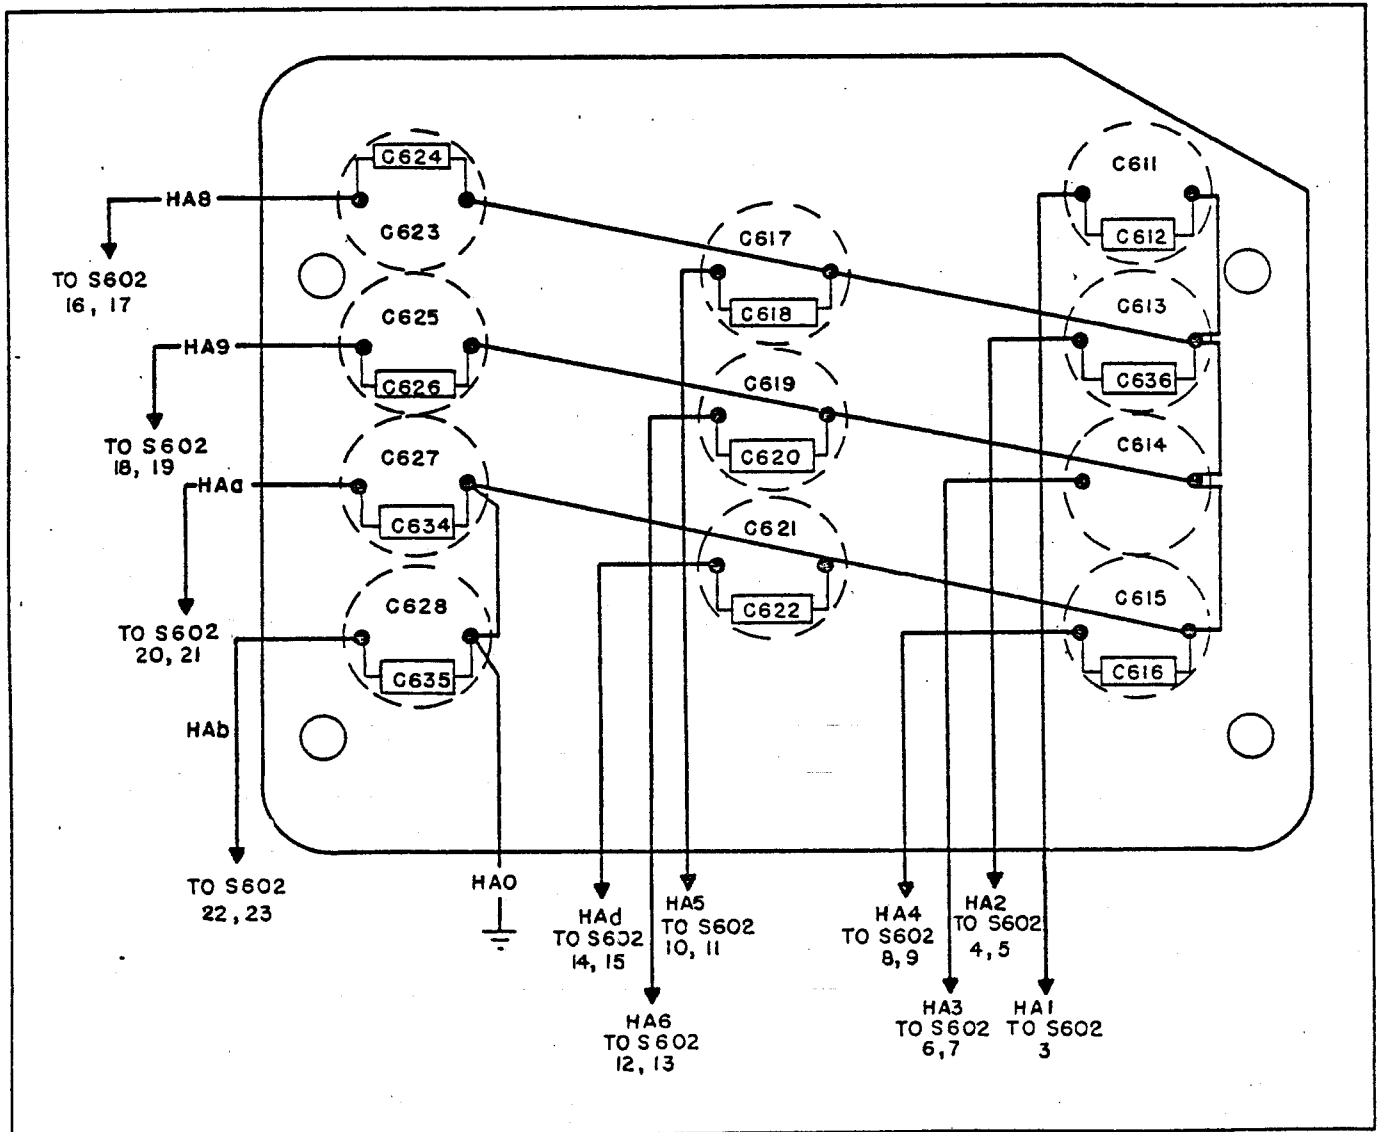

Figure 3-16. R-F Oscillator Assembly, Trimmer Capacitors, Wiring Diagram
- d. Remove two screws (item 4), thereby allowing access to screws (item 5).
- e. Remove two screws (item 5).
- f. Withdraw the small chassis (item 6) containing the switches and trimmers from inside the r-f oscillator assembly chassis.
- g. Remove crystal cover (item 7) by removing two attached screws. Pull all crystals from sockets.
- h. Remove retaining ring and washer (item 8).
- i. Remove screws, spacers, and posts (item 9).
- j. Remove switch shaft (item 10).
- k. Remove four screws and two spacers (item 11), allowing the switches and terminal boards to be removed.
- m. The fixed capacitors and variable trimmer capacitors, connected to switch S602, are now replaceable without further disassembly. The fixed capacitors are removable by unsoldering and the variable capacitors are removable by sliding the capacitor mounting clamps up and back with long-nose pliers. Refer to figure 3-16 for trimmer capacitor location.
Refer to figures 3-16 through 3-18.